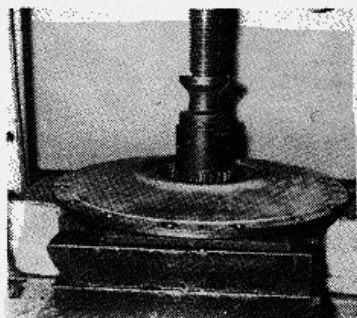

FIGURE 8-9
m. Press outer planetary assembly out of the drive drum hub using an arbor press (see figure 8-9).